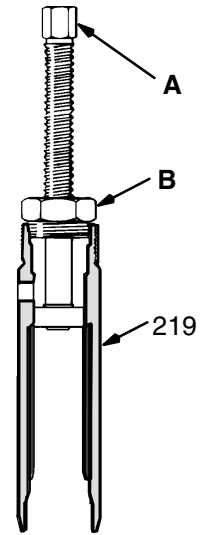

Fig 34-2
6. Screw the large nut (B) of the tool into the top of the cylinder (19). Screw down the rod (A) to push the sleeve out. Remove the tool. *Refer to Fig 34-2.*